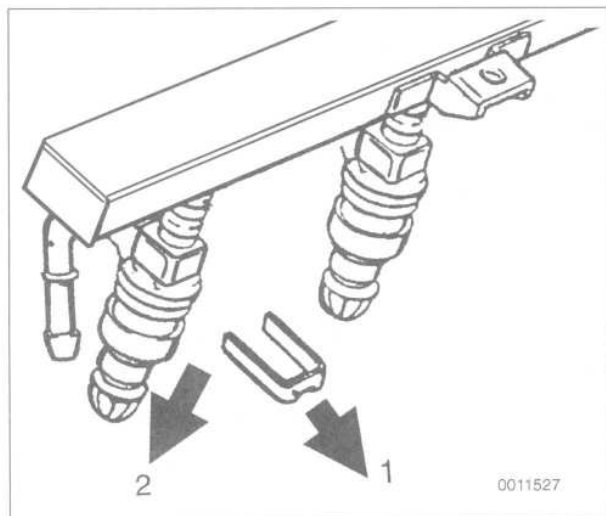

Fig. 18. Pry retaining clip from injector (1), then pull injector from rail (2).
7. Pry up the fuel rail and remove individual injectors by removing the injector retaining clip and pulling the injector from the rail. See Fig. 18.